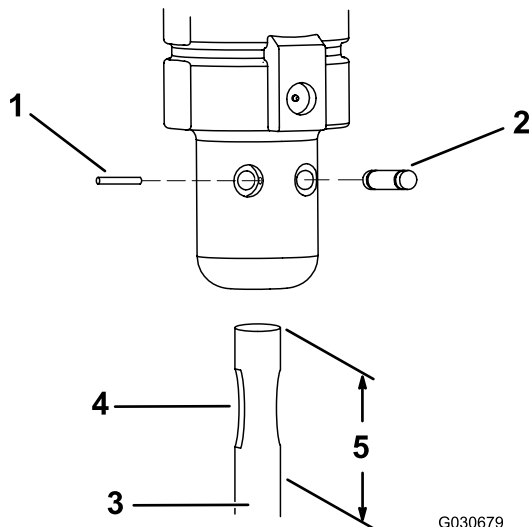

Figure 2
4. Using a hammer and punch, remove the 2 elastic pins out of the breaker housing to gain access to the retaining pins (Figure 2).
5. Using a hammer and punch, remove the 2 bit-retaining pins from the breaker housing (Figure 2).
6. Apply grease completely over the top 15 cm (6 inches) of the bit (Figure 2)
7. Slide the bit into the breaker with the 2 notches in the bit in line with the retaining-pin holes (Figure 2).
8. Hold the bit in place and insert the 2 bit-retaining pins into the breaker housing (Figure 2).
9. Drive the pins into place with a hammer (Figure 2).
10. Insert the 2 elastic pins into the breaker housing and drive them into place over the retaining pins with a hammer (Figure 2)